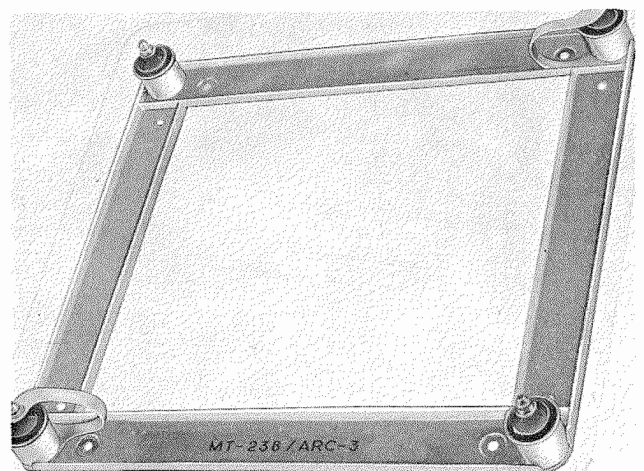
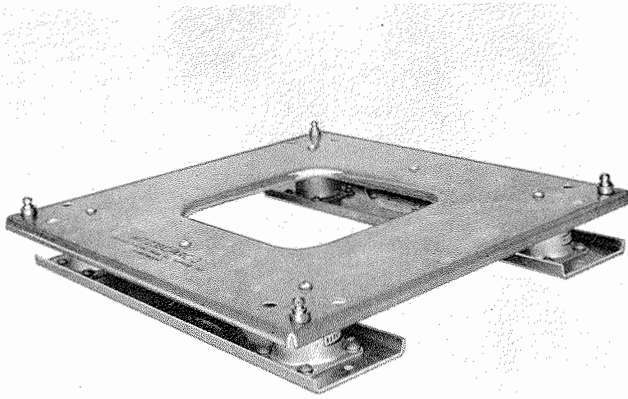

Figure 1-10. Mounting Base MT-238/ARC-3
Figure 1-11. Mounting Base MT-238C/ARC-3
(4) Mounting Base MT-238C/ARC-3 (See fig. 1-11) is supplied for shock-mounting the AN/ARC-3, AN/ARC-36, or AN/ARC-49 transmitter. Mounting base MT-238/ARC-3 (See fig. 1-10), MT-238A/ARC-3, or MT-238B/ARC-3 may be used with the AN/ARC-3 or AN/ARC-36 transmitter but should not be used with the AN/ARC-49 transmitter.